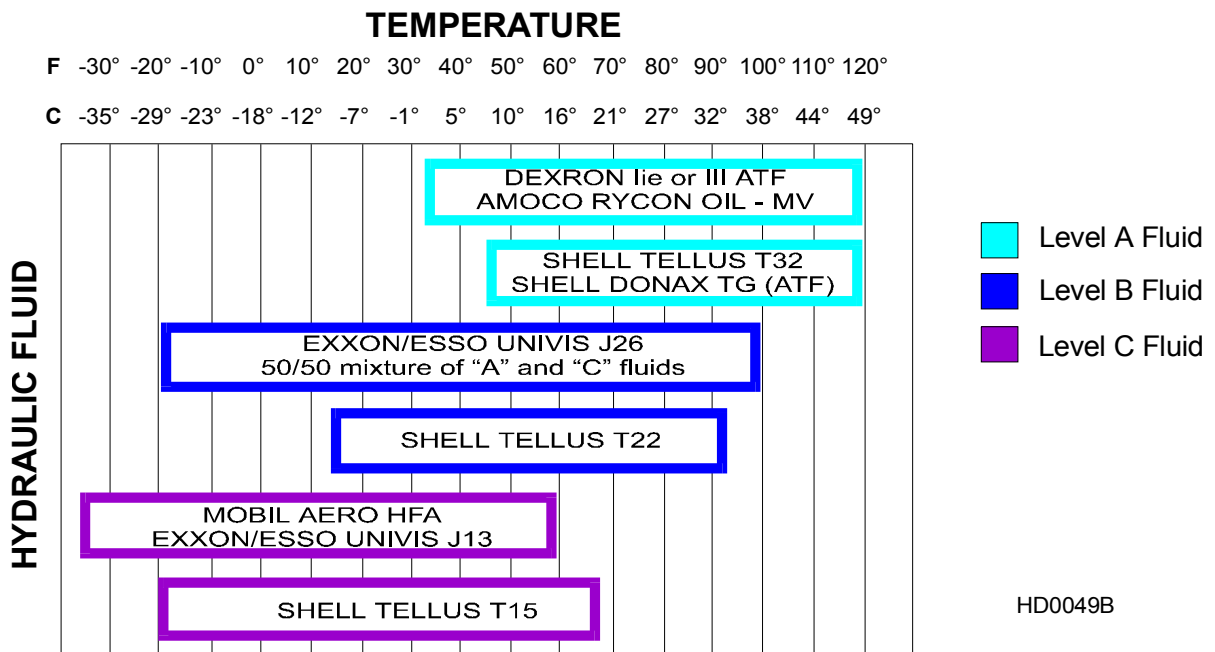

FIG. 3-6
**See Figure 3-6.** If you are operating in temperatures -20° to 100° F (-29° to 38° C), use an all-weather hydraulic fluid such as Exxon Unavis J26. For alternate fluids and/or other temperature ranges, refer to the chart below. Operating above the recommended temperature range of a fluid could result in excessive pump wear. Operating below the recommended temperature range could result in reduced hydraulic cylinder speed. To change fluid types, replace one gallon of the current fluid with one gallon of the alternate fluid.